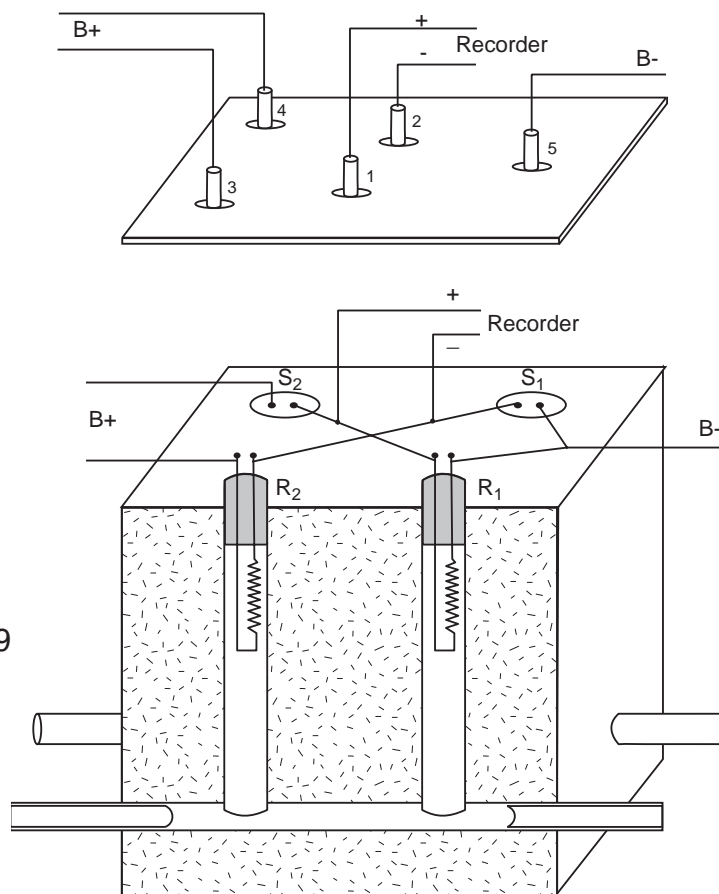

Figure 9
- iii. Place one lead on "B-" terminal of T/C cell (terminal 5). (Fig. 9).
- iv. Place second lead to Galvo terminal 1 or 2 (whichever drives recorder toward zero). (Fig. 9).